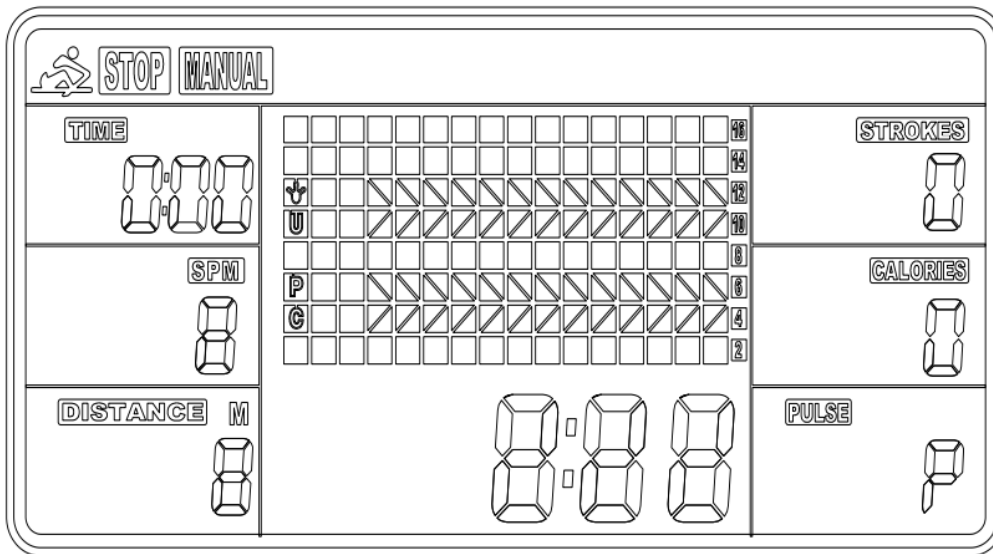

Fig.4
(1) MANUAL (Fig.4): There are 2 options in MANUAL mode.